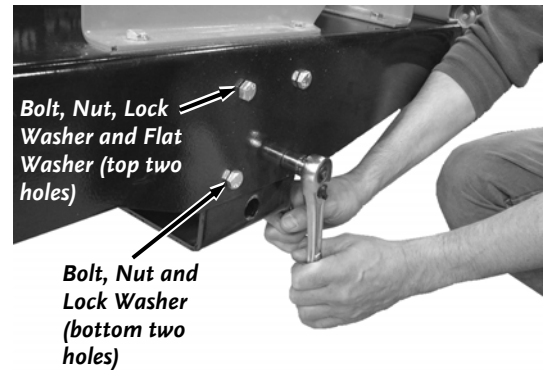

Figure 55
7. Remove the four Bolts, Lock Washers and Nuts (two large washers on top two holes only) from the side of the chipper Frame with two 9/16" wrenches (**Figure 55**).